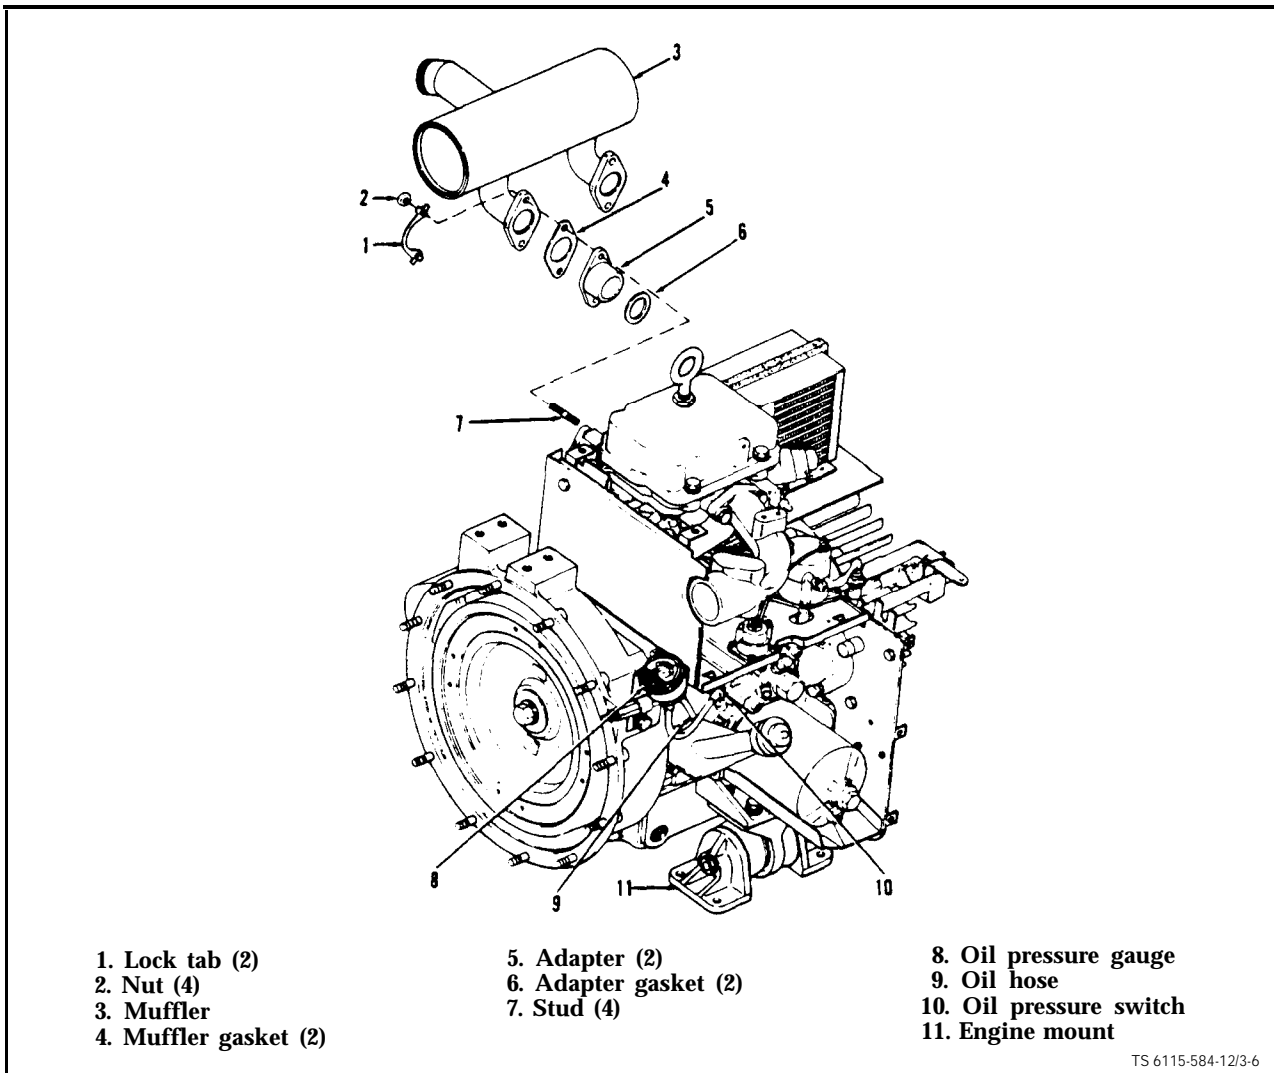

Figure 3-6. Exhaust Muffler Assembly
- a. Inspect (see figure 3-6). Manually open shutter assembly and check that muffler assembly (3) is securely fastened to unit. Check that nuts (2) and lock tabs (1) attaching muffler to unit are in place.